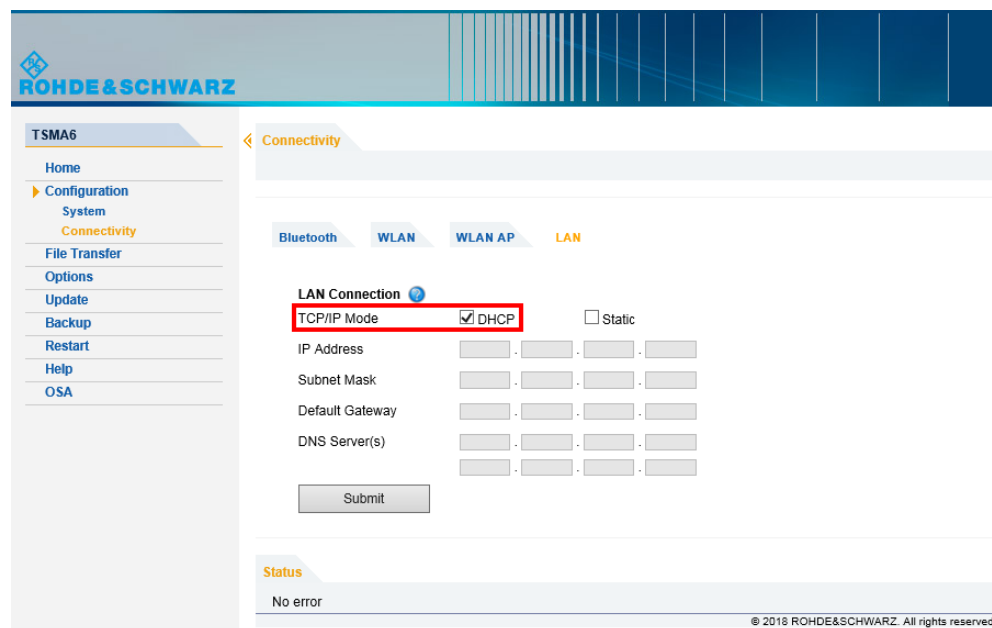

Figure 8-7: Web GUI - LAN Connection
3. Check the setting of the R&S TSMa6 LAN port (see Figure 8-7). The default setting is "DHCP".